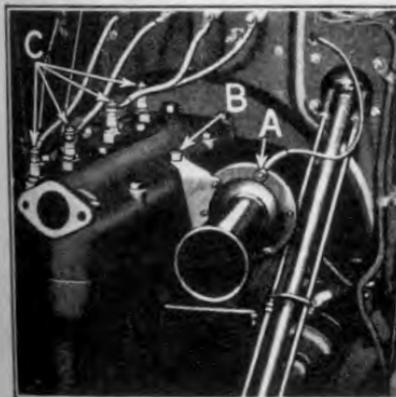

Fig. 25
21. **Remove horn** by disconnecting horn wire at horn (See "A" Fig. 25) and running out cylinder head bolt "B" which holds horn to cylinder head.